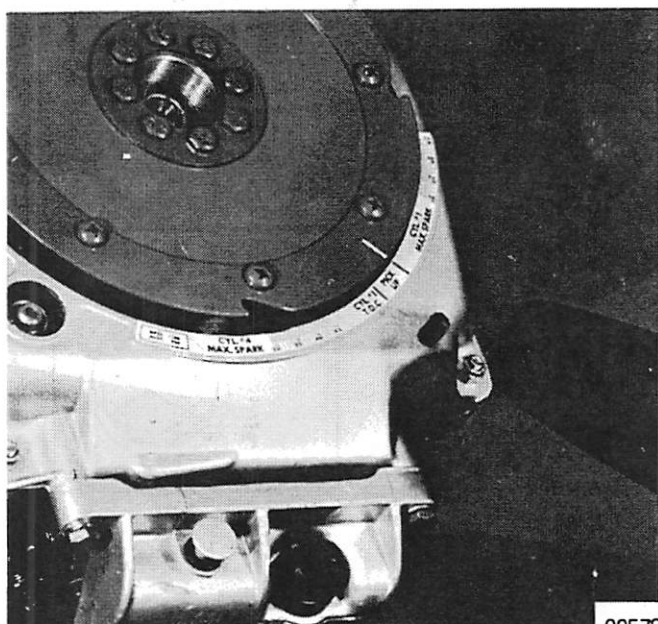

Figure 5. Spark Advance Adjustment
- 1) Using timing lite, advance throttle until line on flywheel aligns with throttle pickup line on timing decal. (Figure 5) At this point, carburetor pickup should just touch carburetor cluster.